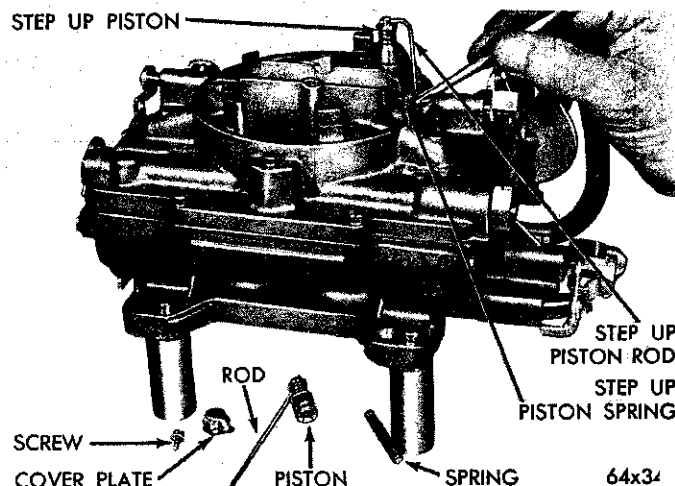

Fig. 2—Removing Step-up Pistons and Rods
(8) Lift off the plates and slide the step-up pistons and rods out of the air horn, as shown in Figure 2. Remove the step-up piston springs.
(9) Remove the ten screws that attach the air horn to the main body (1 screw in hole in air horn). Lift air horn straight up and away from the main body.
(10) Remove the accelerator pump plunger lower spring from the pump cylinder.